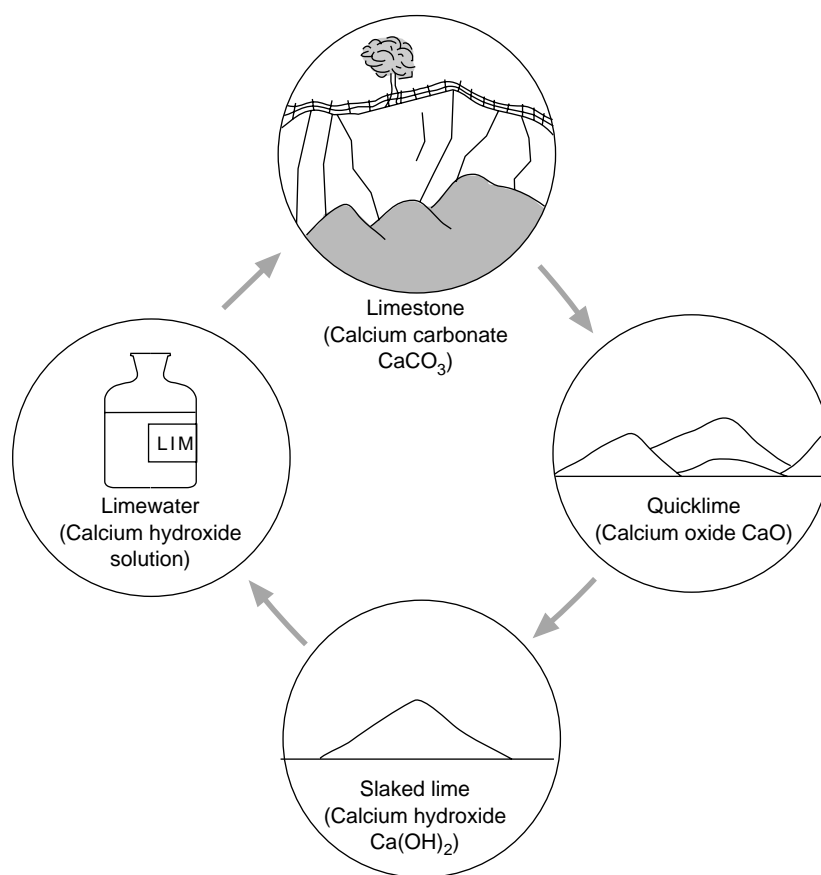

Fig 1 The Lime cycle
Figure 1 shows a cycle of chemical reactions starting with limestone. These turn limestone into other substances and finally back to calcium carbonate. Some of these reactions are used by Brunner Mond when it makes sodium carbonate.
1. Using *Figure 1* to help you, write a word equation to describe the reaction which occurs when you heat calcium carbonate.
2. Using *Figure 1* to help you, write a word equation to describe the reaction between calcium oxide and water.